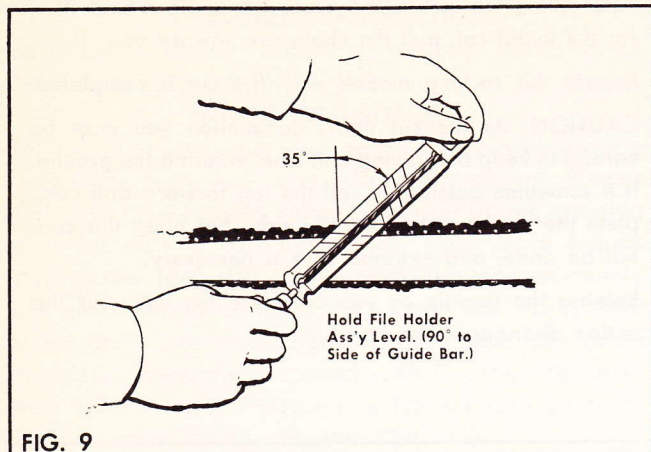

FIG. 9
2. Place file holder assembly over rounded cutting tooth. (See Fig. 9) The left hand cutting tooth should be sharpened from the right side and the right hand tooth from the left hand side. Line up filing angle marks on holder with guide bar. Hold file level or 90° to the guide bar.